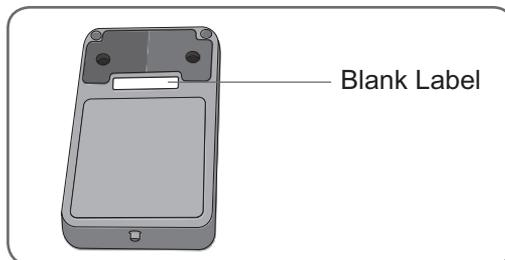

Figure 37: Label on the RF Stim Unit for the System ID Number.
4. Locate the System ID Number on the NESS L300 carrying case (for example, A334). Write the number on the blank label on the back of the new RF Stim Unit. See Figure 37. This number identifies which NESS L300 system the new RF Stim Unit will register to.